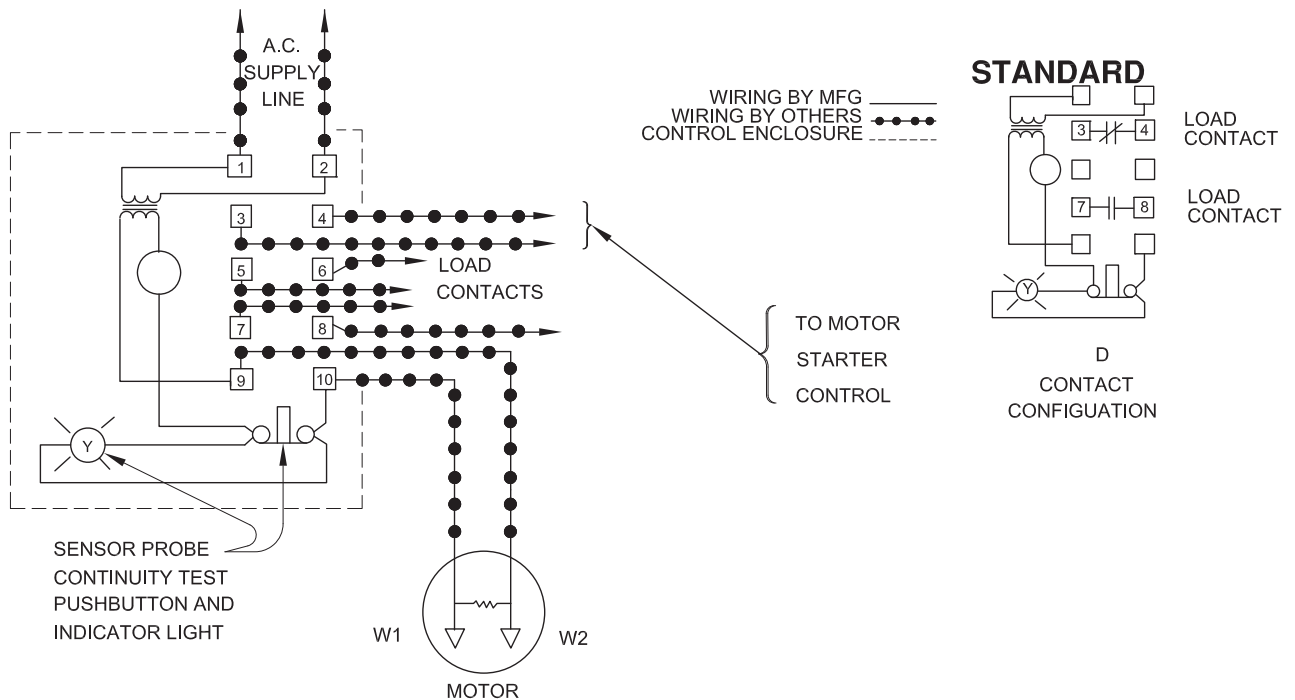

FIGURE 4
A normally open (N/O) detector is installed in the pump seal chamber, which will detect any moisture present, and a continuity test resistor built into the motor. The test resistor is rated 1 watt at 330K ohms. The moisture sensors **MUST** be connected to moisture detector control, which includes a continuity test circuit, see Fig. 4 for typical wiring diagram. The normally closed (N/C) contact of the moisture detector **MUST** be connected in series with the stop button of the pilot circuit of the magnetic motor controller. A Warrick moisture detection control, Type 2800 is an acceptable control if properly installed and maintained. Wiring must be provided from the moisture detector sensor probe leads of the motor designated W1 and W2 to terminals 9 and 10 of the 2800-XXX control. Terminal pair 1-2 must be continuously energized from an A-C supply line of electrical characteristics shown on the data table.
- A moisture detection circuit with continuity test circuit (see Fig. 4)